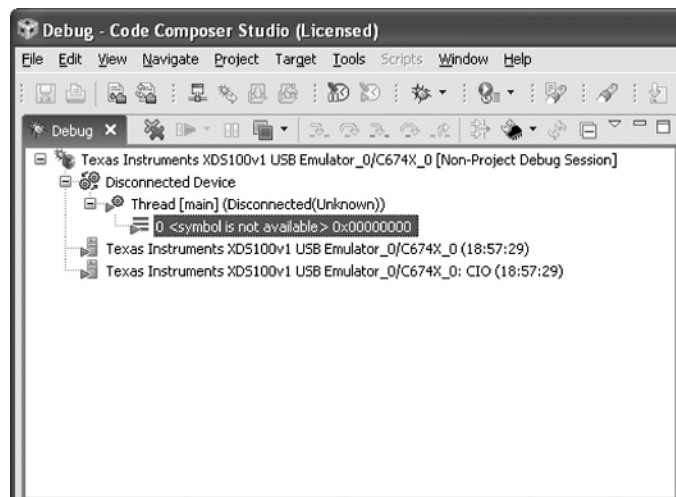
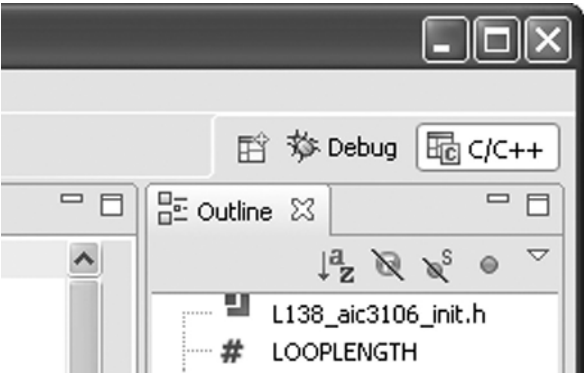

Figure 1.9 *Debug* view as it should appear in the *Debug* perspective after launching the debugger (*Connect* icon grayed out).
Figure 1.10 Switch between *Debug* and *C/C++* perspectives by clicking these buttons.
- (12) Launch the debugger by selecting *Target > Launch TI Debugger*. This should cause Code Composer Studio to switch from the C/C++ perspective to the *Debug* perspective, including a *Debug* window as shown in Figure 1.9. If Code Composer Studio software does not automatically switch to the *Debug* perspective, you can do so using the *Debug* button in the top right-hand corner of the Code Composer Studio IDE window, as shown in Figure 1.10.